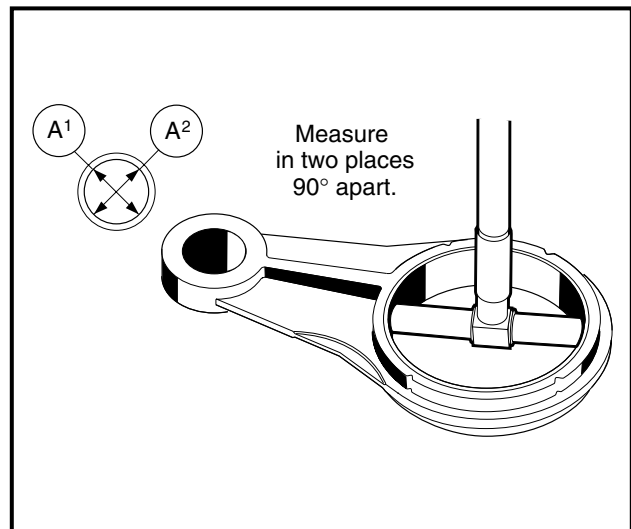

Figure 2-73 Measure I.D. of Large Bore
- 1.3. If the inside diameter of the large end is greater than 1.8554 inches (47.127 mm), replace the bearing (**Figure 2-73, Page 2-33**). **See following NOTE.**